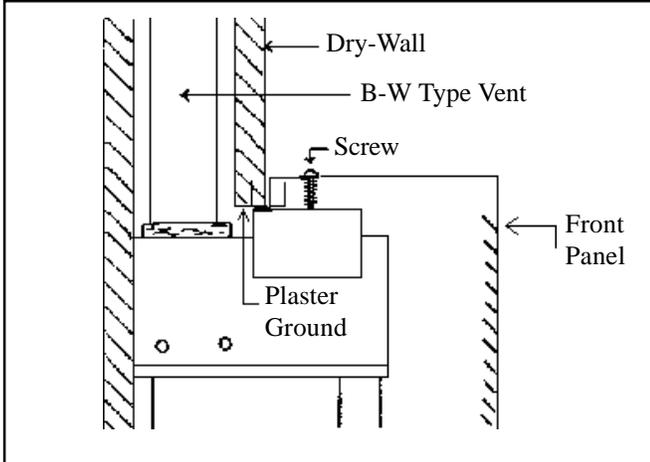

FIGURE 5A - DRY WALL
STEP 10. To fasten front panel to furnace, be sure exposed portion of header is free of debris and plaster. Place outer panel over furnace with top of panel about one inch above header and centered in opening. Keep front panel flush to finished wall and slide down until rear flange of top outer panel is wedged tight with header and flush with wall. Open bottom door of front panel and place sheet metal screw into locking latch. Secure top of front panel to header plate with screw provided. This will hold front panel securely to wall. See Figures 5A, 5B, (See Page 7), and 5C.